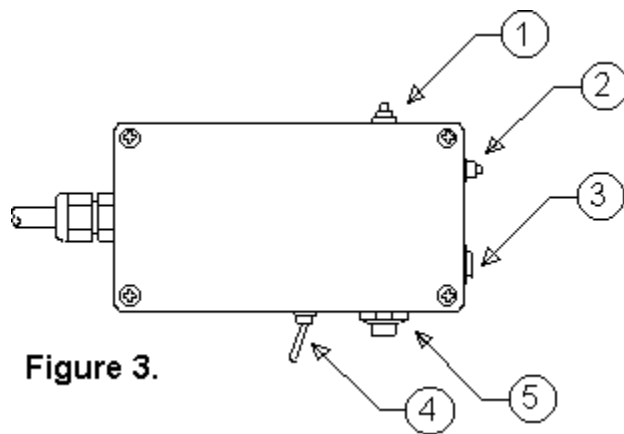

Figure 3.
hand control (see Fig.3) contains the following controls and components: (1) A microphone activation switch. Depressing the switch will turn on the microphone (3). This switch allows the operator to use the microphone without any annoying feedback when moving too close to the AGC-3. For best results, do not depress this switch unless the microphone is used. (2) An air gate reset switch. This switch will raise the gate after the gate has dropped and the riders have moved away. (4) A recall horn switch. This switch will activate an electronic horn for rider recalls. (5) A start switch. This switch will start the gate controller and step through the voice commands and the lights/horn sequence.
2. If the gate is down, raise the gate by using the air gate reset switch (item 2 in figure 3). If using an up/down gate, it is sufficient to hold the switch for about one second. When an up only gate is used, maintain the switch until the gate is fully raised. (Also see section 2.1). **Caution:** Ensure that the gate is clear of riders before raising.
3. Use the start switch (item 5 in figure 3) to activate the voice commands. Set the volume control for the best quality voice.
4. If necessary, use the microphone and microphone activation switch (items 1 and 3 in figure 3) to direct the riders to the gate.
6. If there is a false start, use the horn switch (item 4 in figure 3) to recall the riders.
5. *Feedback when using the microphone:* If there is feedback when using the microphone, try to move away from the speakers. Use the microphone switch (item 1 in figure 3) only when talking.